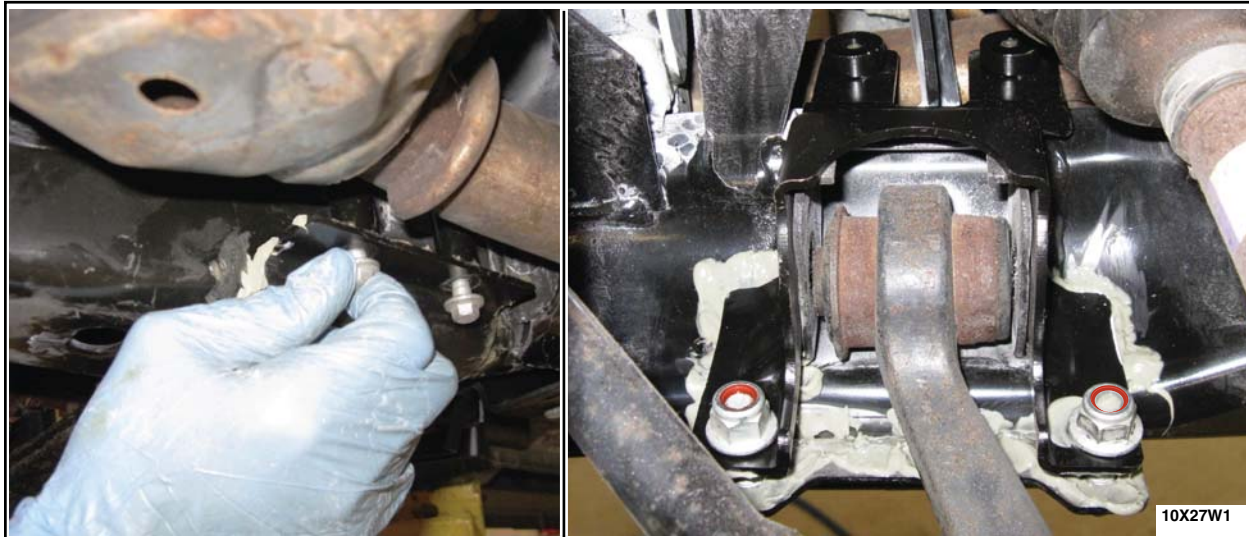

FIGURE 14
16. Align the lower section of the passenger side LCA reinforcement bracket with the upper section. While holding in place, install the bolts, nuts, sleeves and finger tighten. See Figure 14.